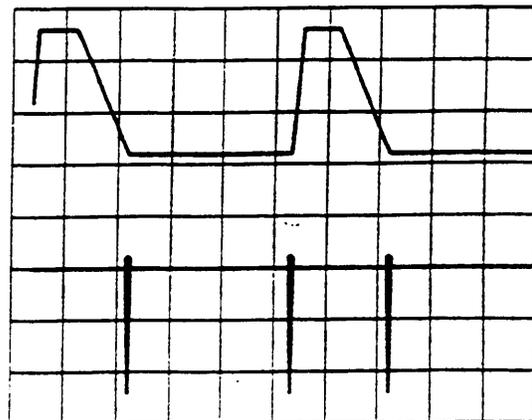

Figure 7. Loop Amplifier $+0.4$ Vdc Lock-Up.
7. Change the frequency of the Signal Generator to 850 MHz. Verify that the oscilloscope display shown in Figure 7 is correct. Note the lock-up point of approximately $+0.4$ Vdc on the Channel A display and that lock-up occurs on the first beatnote detected during ramp down of the Loop Amplifier.